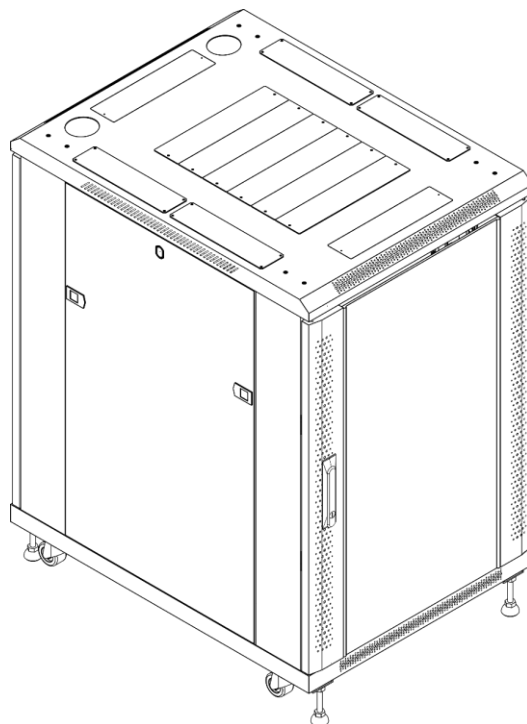

Fig. 42
- 26) Repeat step 25 for the **glass door (F)**, as shown in Fig. 42.
- 27) Use 2 sets of **keys (R)** to lock and unlock the doors. The cabinet is now ready for use.